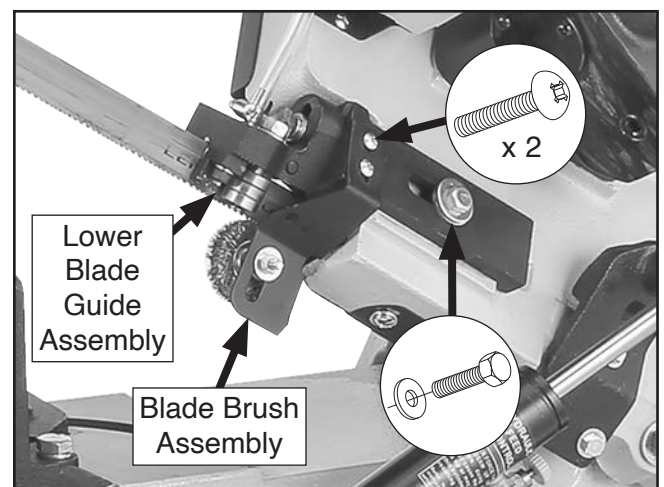

Figure 71. Location of blade brush assembly and screws.
6. Remove (2) screws shown in **Figure 71** to remove blade brush assembly.
7. Remove hex bolt and flat washer shown in **Figure 71** to remove lower blade guide assembly.